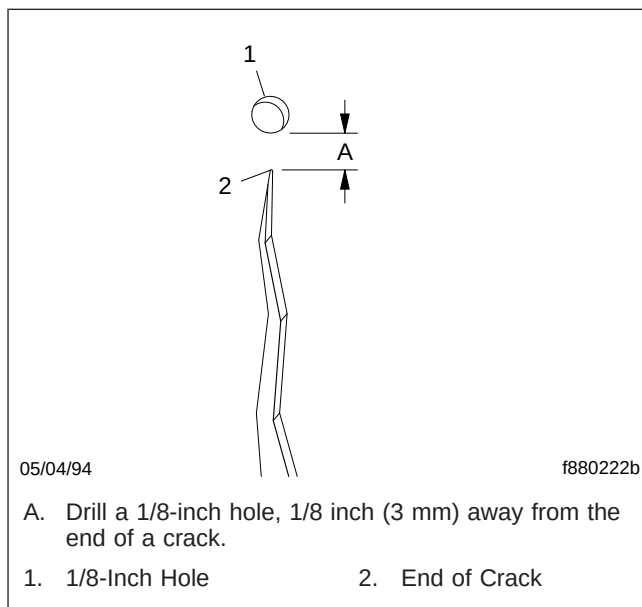

Fig. 3, Crack Prevention
4. If repairing a crack, use a 1/8-inch diameter bit to drill a hole completely through the uncracked laminate 1/8 inch (3 mm) from each end of the crack, to prevent the crack from lengthening; see Fig. 3.